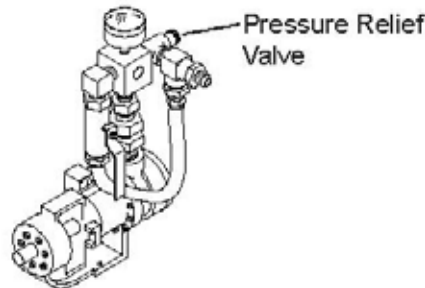

Fig. 8
10. The sprayer has an adjustable pressure relief valve (See Fig. 8) on the block assembly. You may need to vary the pressure according to the viscosity of the material you are using. Thinner liquids tend to need more pressure to assure a good coverage pattern.